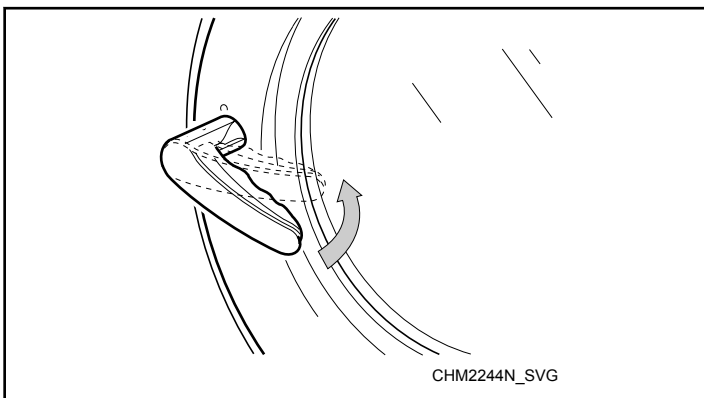

Figure 43
4. Close door and turn handle counter clockwise. Refer to *Figure 43*.